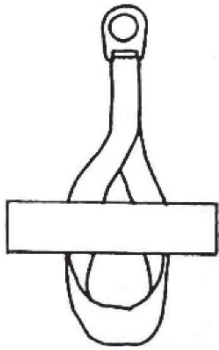

Fig. 1
- ◆ Wrap the Temporary Anchorage Connector around the structural member as shown in Fig. 1.